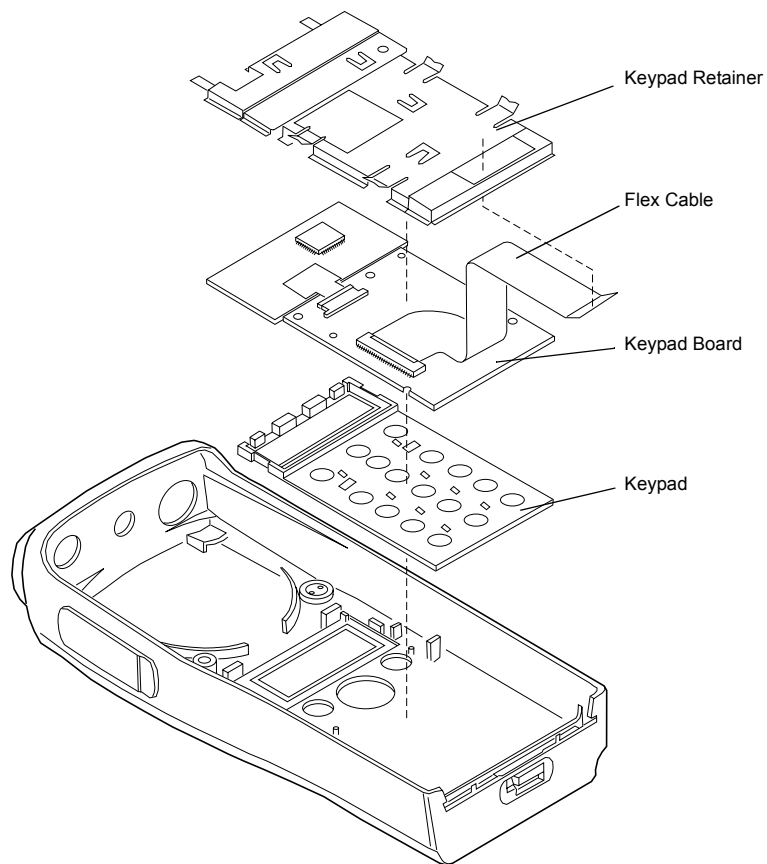

Figure 7-8. Keypad Removal
4. Lift LCD keypad board out of housing (Figure 7-8).